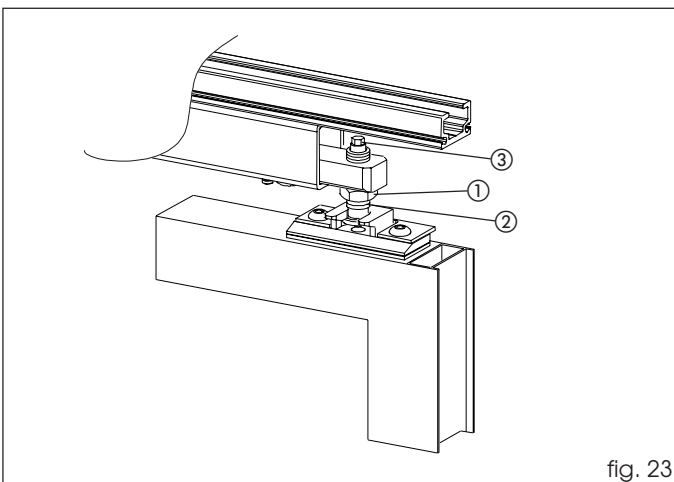

fig. 23
Loosen the nut (fig. 23 ref. ①) and adjust the height of the panic release unit (ref. ②).